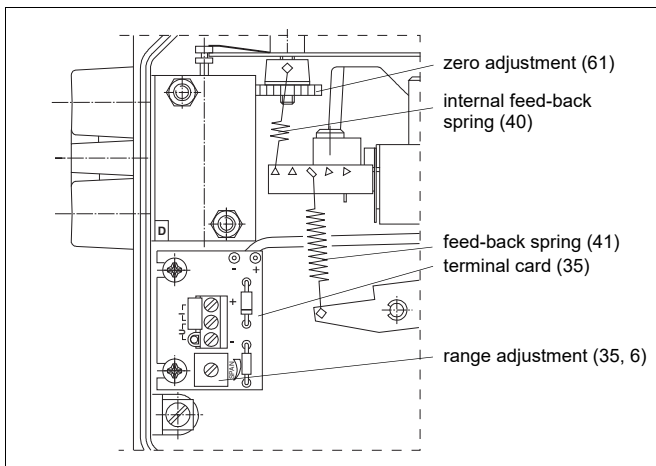

Fig. 12 Zero and range adjustments
2. Set the input signal at the closed limit of the valve so that it is 2 % i.e. 0.3 mA higher or lower than the limit value, e.g. $4 + 0.3 = 4.3$ mA or $20 - 0.3 = 19.7$ mA. Turn the zero adjustment nut (61) with a screwdriver or fingers so that the actuator comes slowly to the closed limit. The valve should open slightly with a 4 % change in signal, that is 0.6 mA, e.g. $4 + 0.6 = 4.6$ mA or $20 - 0.6 = 19.4$ mA. See Figures 12 and 13.